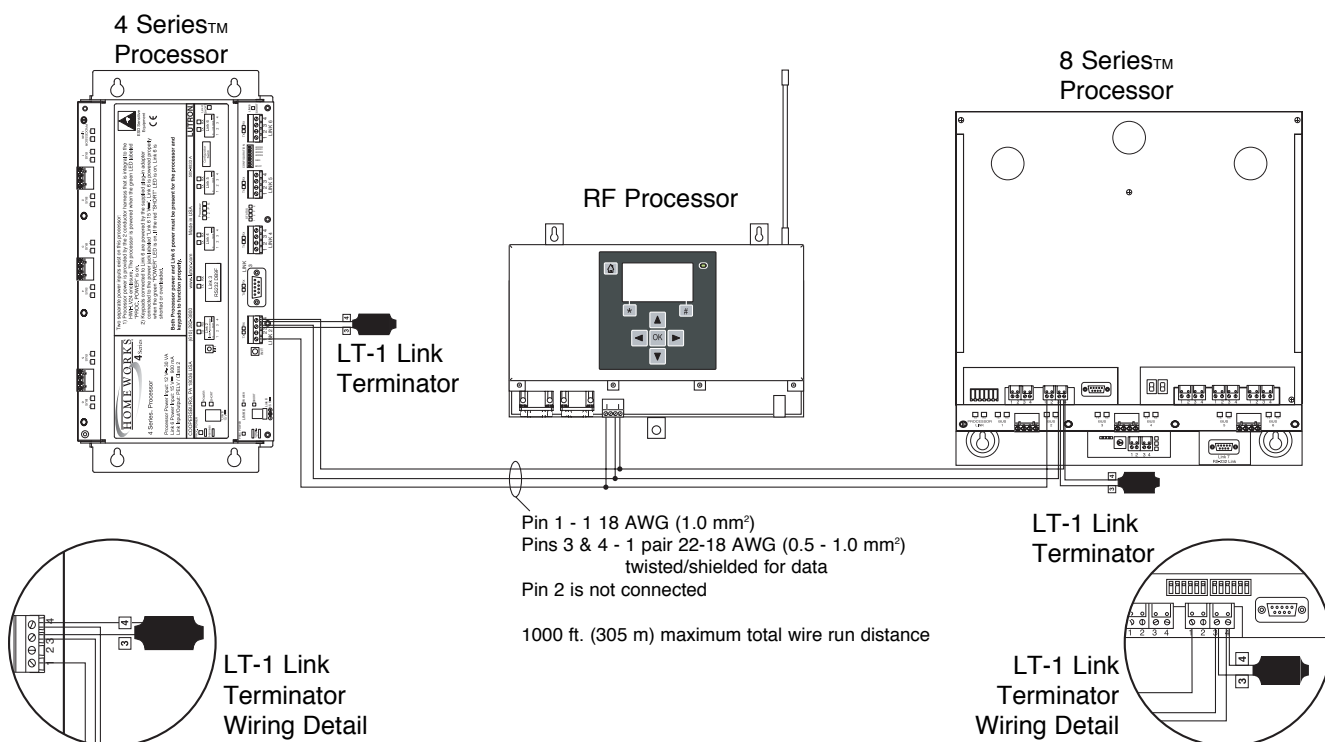

Figure 5 - Daisy Chained HomeWorks® Processors
5. **Connect Dimmer Hub links:** A harness connects Link 4 to the factory installed Dimmer Hub. If additional HWI-H48 boards are to be controlled by this processor, the communication link to those boards should be connected into the same terminal block. Do not connect terminal 2 to an HWI-H48. If the H48 Link has a cable length of 50 feet (15 m) or more, LT-1 link terminators must be installed across MUX and MUX (terminals 3 and 4) at both ends of the link. Refer to HWI-H48 instructions (see Figure 5, page 4).
6. **Connect Inter-processor Link (multiple processor installations only):** The Inter-processor Link is used for communication between HomeWorks Processors. Connect control wiring to the Inter-processor Link (Link 2), if required. Do not connect terminal 2 (see Figure 5, page 4). If this processor is to be the first or last processor in the daisy chain, attach one of the LT-1 link terminators provided across the MUX and MUX (terminals 3 and 4—see Figure 5, page 3). If LT-1 terminators are unavailable, a 1/2 W resistor between 100 and 150 Ohms may be placed across terminals 3 and 4 to provide termination.